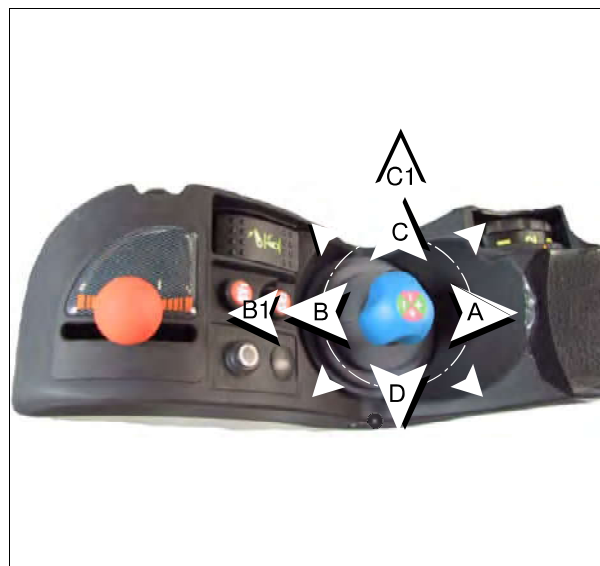

Fig. 18.
- (1) 4-function control joystick (separate or combined) fig. 18.
- (2) Control for additional functions, e.g., : loader (open/close jaws). To use this function, press and hold the control and move the joystick towards C or D fig. 18.